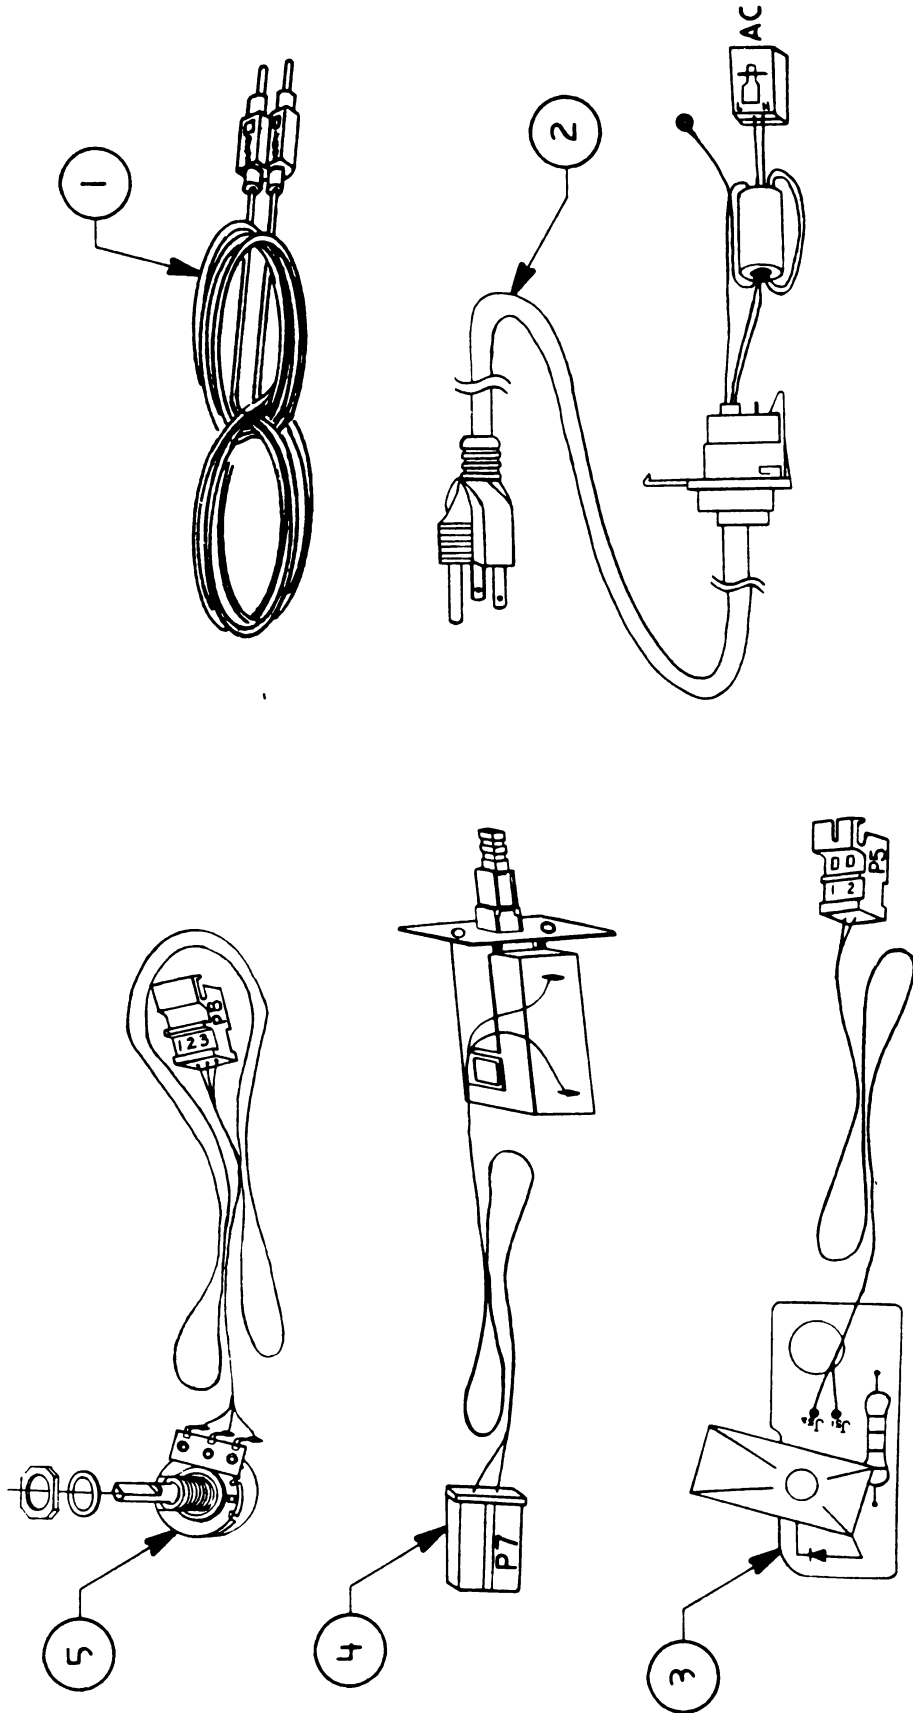

FIGURE 4
SEE FIGURE 4
□ MONOCHROME MONITOR – OTHER PARTS (Figure 4)